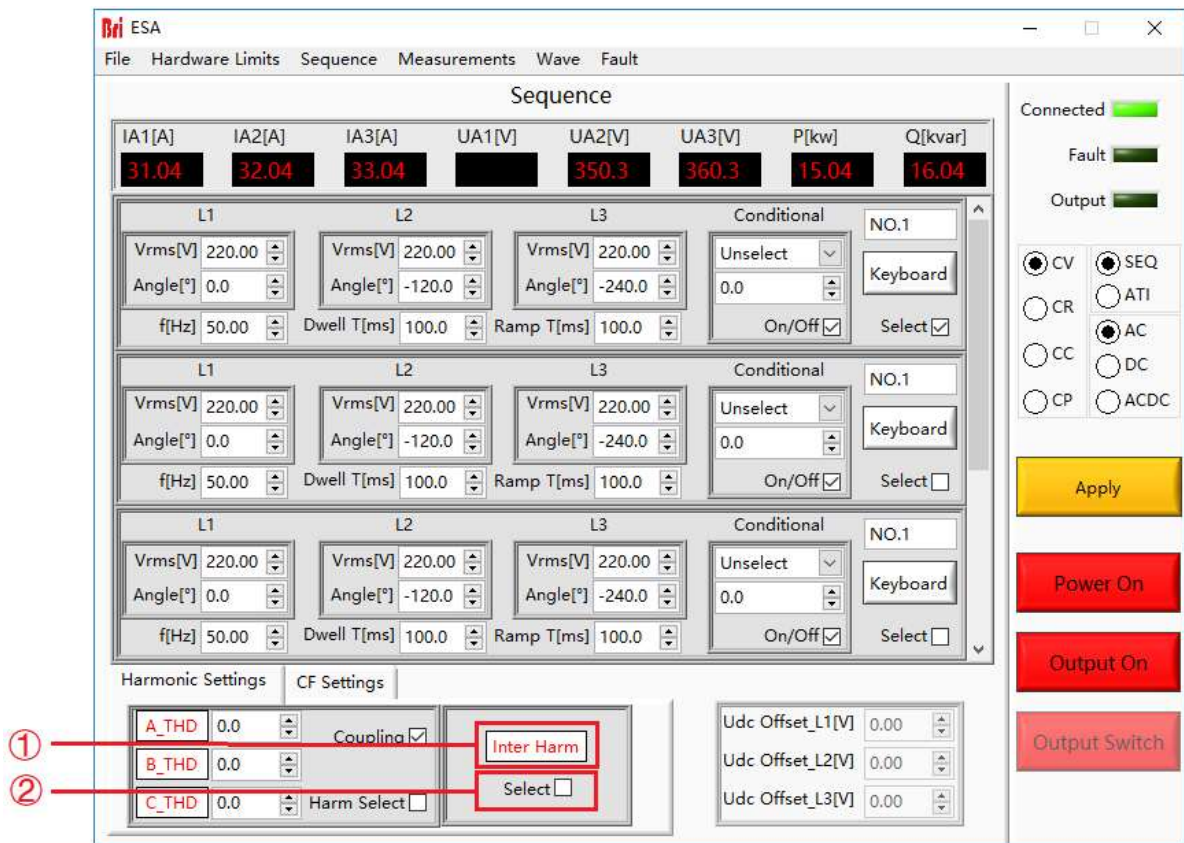
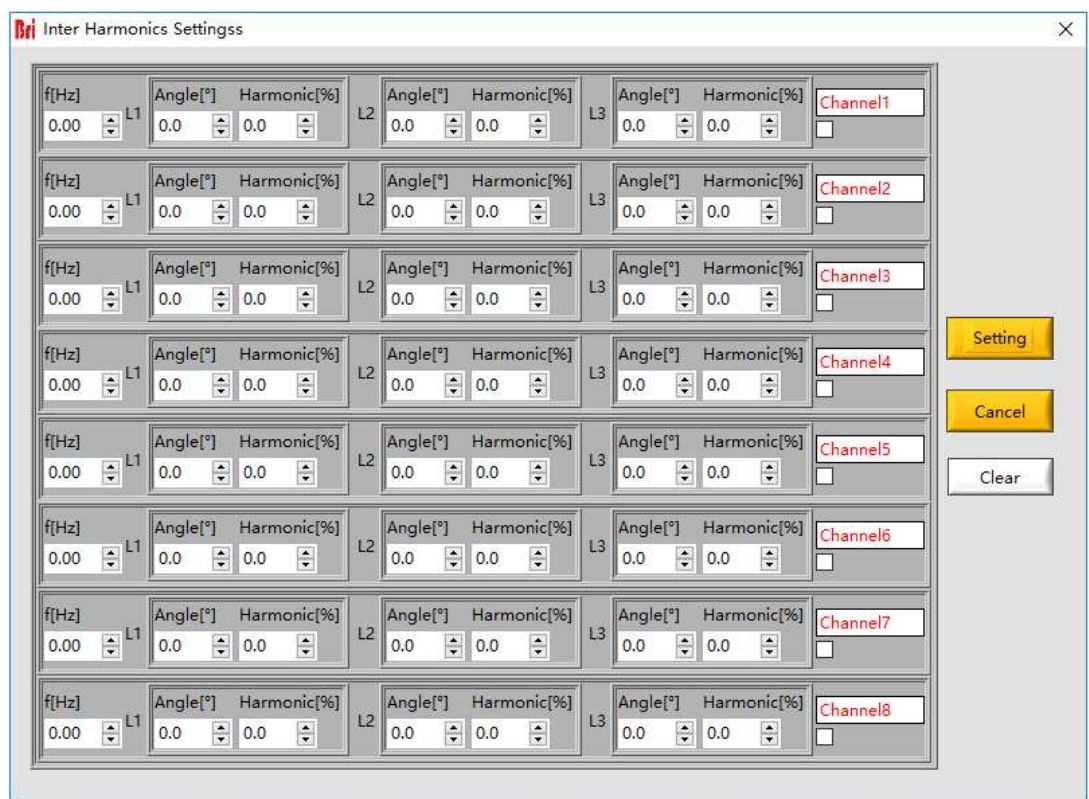

Figure 5-17 Inter-harmonic Simulation -1
Figure 5-18 Inter-harmonic Simulation -2
Click "Sequence Mode" to enter the panel, firstly set the operating parameters (such as output voltage, frequency, etc.). Click "Apply" → "Power On" → "Output On", the power supply is on. Check the inter-harmonic selection box (Figure 5-17①), click the inter-harmonic simulation button (Figure 5-17②), the inter-harmonic setting panel will automatically pop up (Figure 5-18). The user can set the inter-harmonic frequency, angle, content, and other parameters on this panel. After the parameter setting is completed, check the corresponding box, and click "Setting" → "Apply".
To cancel the inter-harmonic simulation, click the inter-harmonic setting button at the bottom of the page (Figure 5-17②), click "Clear" in the pop-up panel to clear all parameters, click "Setting" → "Apply" in turn, and finally cancel the harmonics by checking the box.